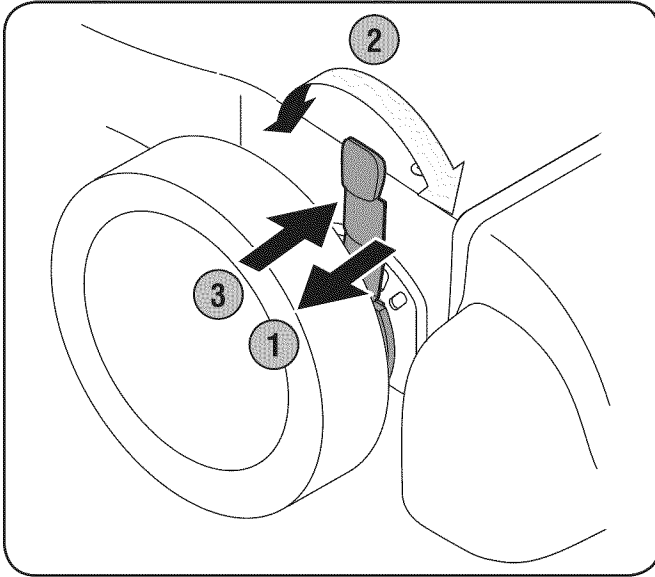

Figure 3-5
1. Depress nozzle height adjustment lever towards wheel. See Fig. 3-5.
3. Release lever towards deck. See Fig. 3-5.